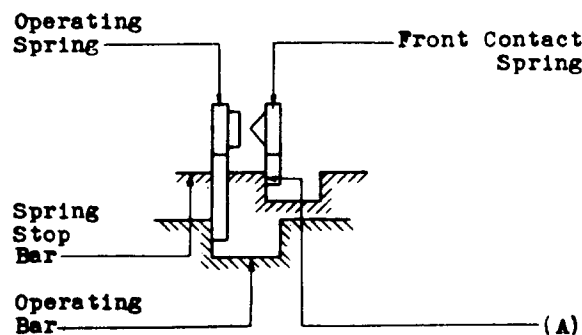

Fig. 5
(b) **Fig. 5 (A) - Front Contact Spring Tang** With the operating bar in the normal position, the pressure of the front contact spring tang against the side of the notch in the spring stop bar nearer the cam roller shall be